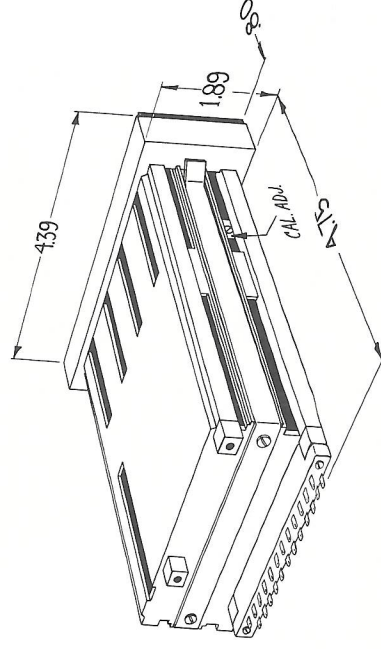

Figure 9
1. Apply power (see Section 2.1) and warm up for at least thirty (30) minutes.
4. Locate the calibration adjustment screw (R5, see Figure 9) on the printed circuit board by looking through the slots in the case on the left-hand side of the instrument. Do not remove the case.